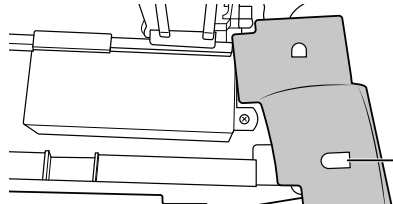

Figure: 2
- Attachment 2: Use the other slit on the side shield and attach it to the hook on the front of the dishwasher. (See figure 2)